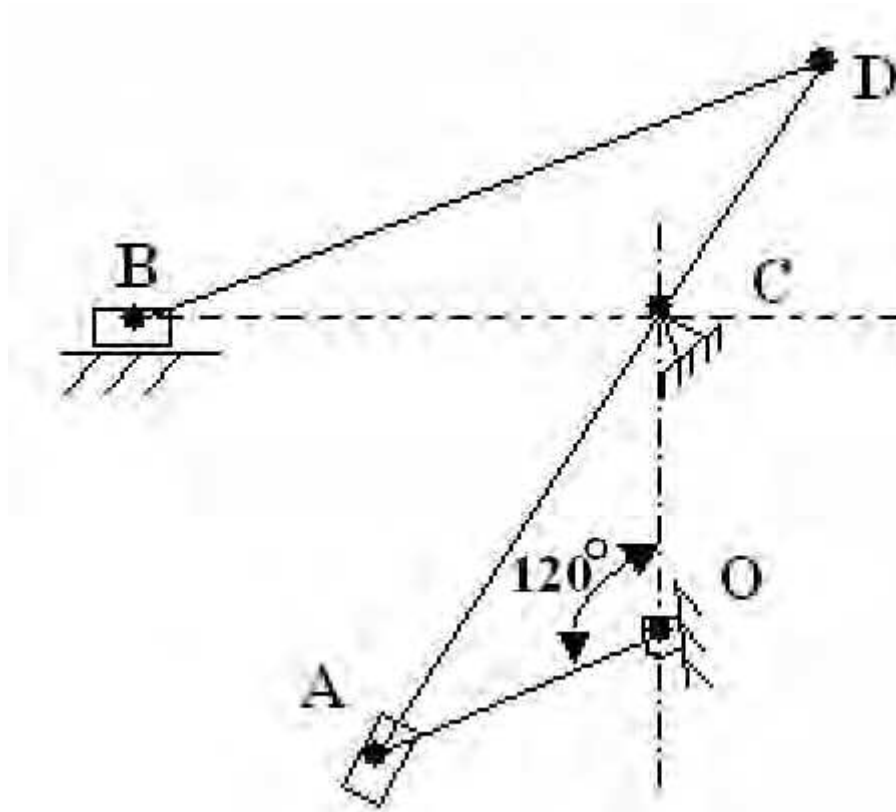

Figure 4:
4. A shaper mechanism is shown in Figure 4. The crank OA rotates at uniform speed of 20 rpm clockwise. The guide block A slides along the slotted lever AD that has its fulcrum at 'C'. The connecting rod BD connects the tool head B to AD. The tool head is constrained to move along BC perpendicular to OC. Find the velocity and acceleration of 'B'. OA= 200 mm; OC=400 mm; CD=200 mm; BD=500mm and angle AOC= 120°. [15]